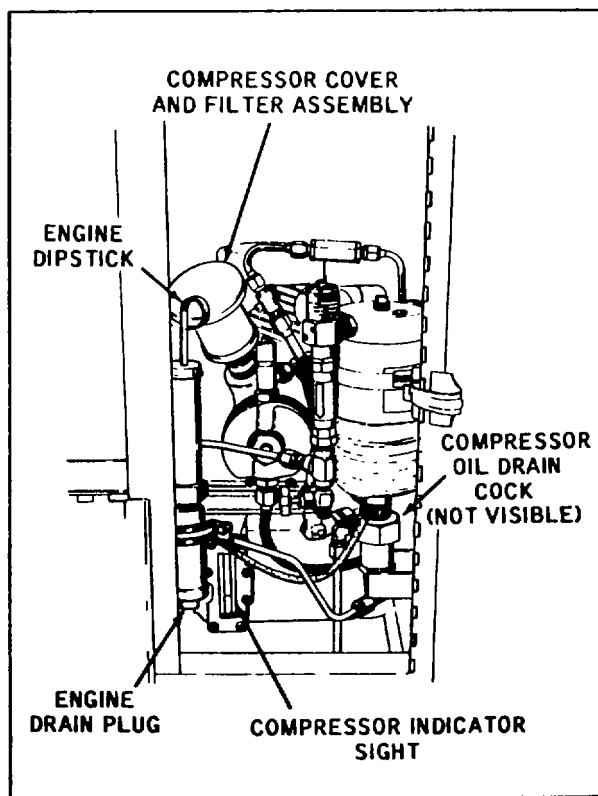

Figure 2-1. Compressor and Engine Lubrication Points
a. Remove breather cover and filter assembly (see Figure 2-1).